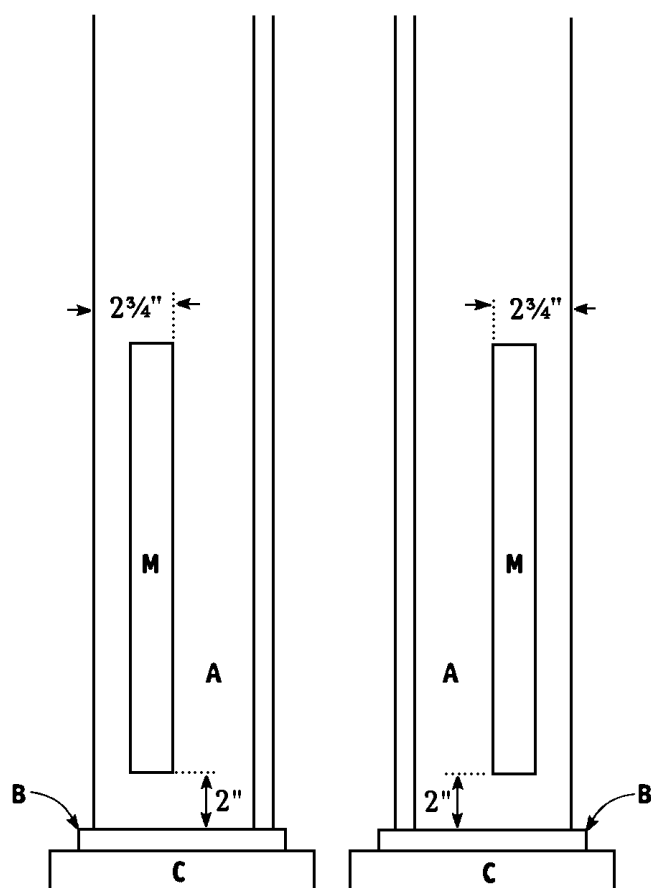

Figure 7
3. Attach two Supports (M) 2 inches above the bottom of the remaining assembled columns as shown in *Figure 7*. Apply glue to the meeting surfaces and screw through the Support (M) into the Side (A) using four 2-1/2" wood screws. (**Note:** these columns will be used to support the footboard.)
4. Place the two headboard columns on a flat surface, with the two attached Supports (M) facing each other. Place the Headboard (D) over the two Supports (M) between the two headboard columns. The bottom of the Rail (L) should be flush against the top of the Supports (M). Screw through the Headboard (D) into the Supports (M) using four 1-5/8" wood screws on each joint.